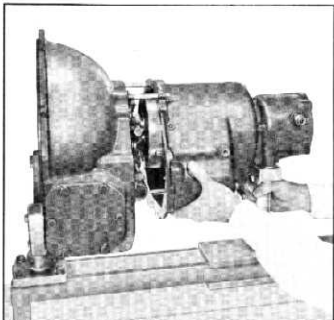

Fig. 69—Separating Transmission and Turbine
13. Remove transmission to turbine housing bolts and carefully separate transmission from turbine housing (fig. 69).